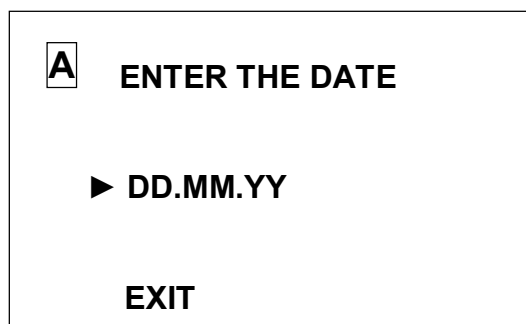

Fig. 2.22
- 17 Move pointer "►" to **YES** line and press "menu **enter**" button. The display shown in Fig. 2.22 shall come up. Enter calibration date.
enter" button. The display shown in Fig. 2.22 shall come up. Enter calibration date.